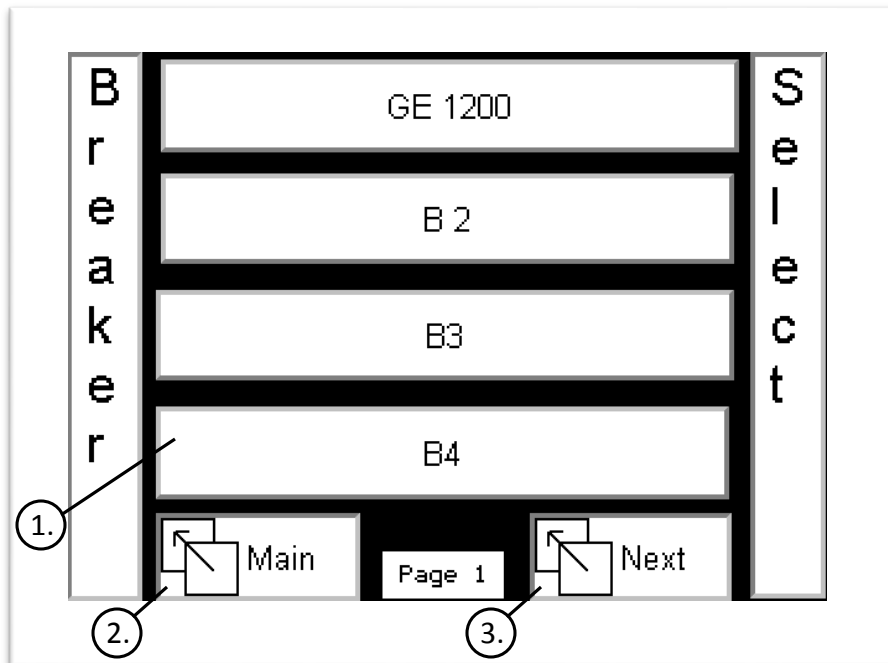

Figure 11: Breaker selection lists
A prompt like figure 11 will next appear to verify that the clutch has been set properly. The operator may adjust the clutch setting (in pounds) by selecting the numerical box and changing the number via the keypad provided after selection. Once the clutch setting displayed is appropriate to the operation, press "OK" to continue.
8. **Operation** – Operation to be performed. Figure 11 shows that the breaker to be serviced will be moved to the connected position